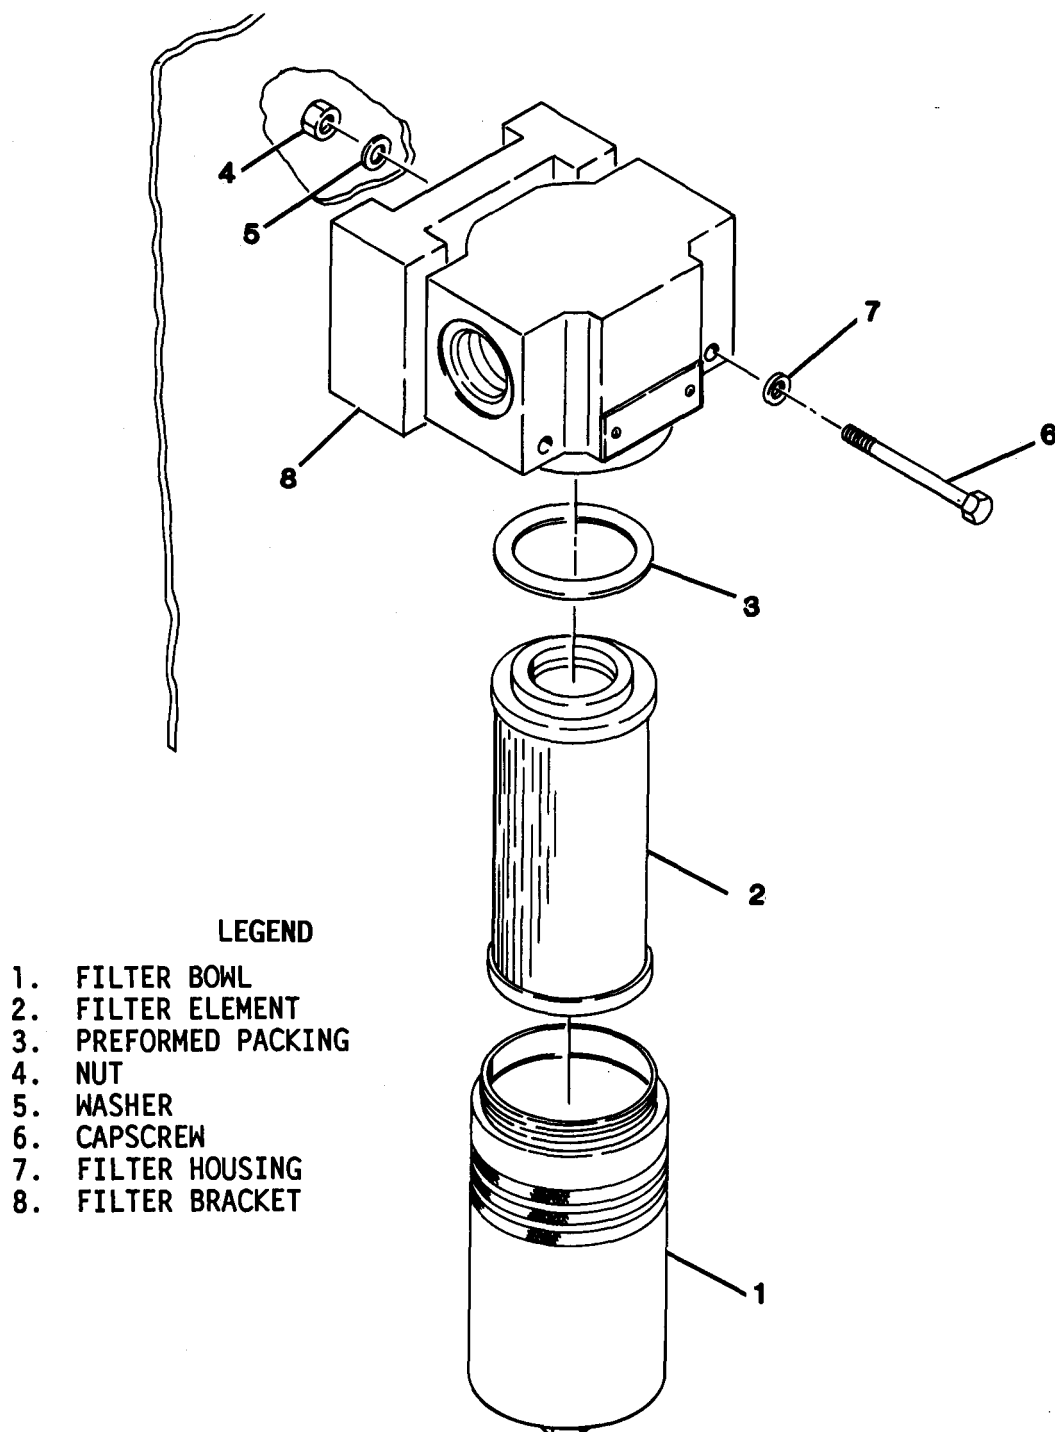

Figure 4-28. Fuel Filter (Secondary)
(1) Gain access to fuel housing (paragraph 4-34a).
(2) Unscrew filter bowl (1, figure 4-28) from filter housing (7). Discard fuel in filter bowl.
(3) Remove filter element (2) from filter housing and discard.
(4) Thoroughly clean filter bowl with P-D-680.
(5) Remove packing (3) from filter housing (7).
(6) Install new preformed packing (3) in filter housing (7).
(7) Install new filter element (2) in filter housing (7).
(8) Screw bowl (1) into filter housing (7) hand tight.
(9) Close fuel housing (paragraph 4-31C).